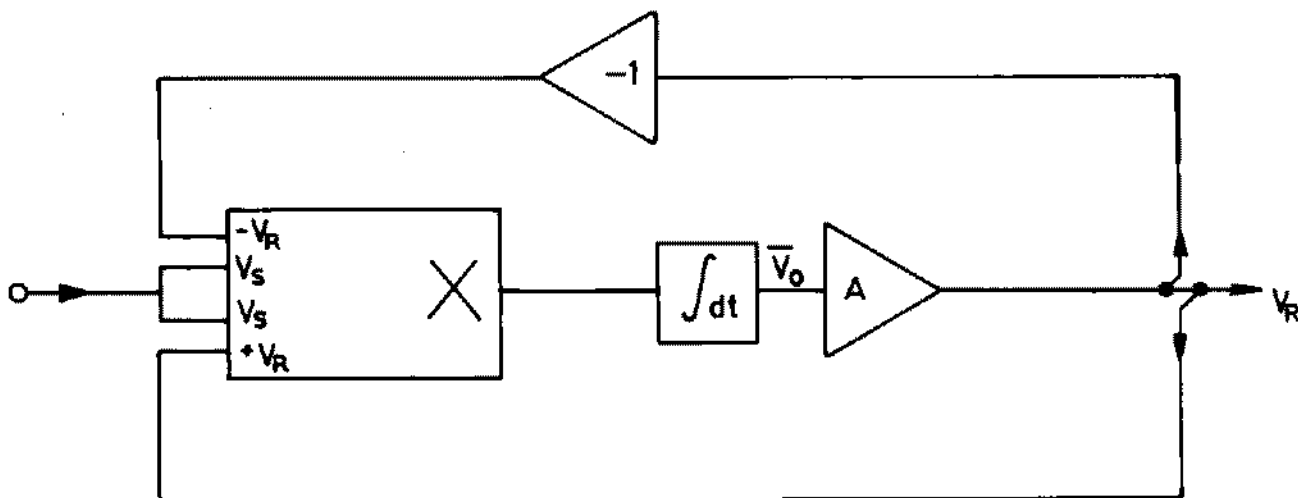

Fig. 5.3 Feedback Loop Operation
5.3.1.8.2 The detector is fed with the output from the AC switched gain amplifier, which enters assembly 19-1022 at SK7. The measuring circuit is in the form of a feedback loop containing a differential multiplier, an integrator and an amplifier, and features an auto-zeroing system which cancels out noise and the effects of the multiplier input offsets. A simplified circuit of the loop and a simplified analysis of the operation of the circuit, ignoring the multiplier input offsets and noise, is given in Fig. 5.3.